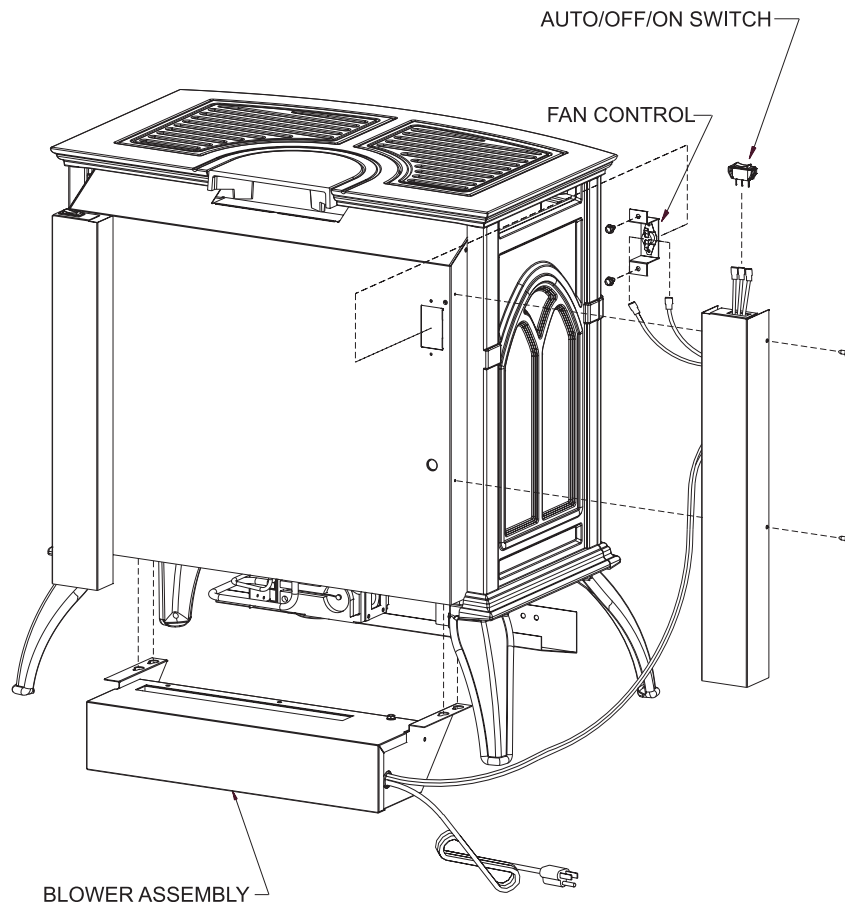

Figure 26 -VFD20CC shown
4. Remove wire channel-left from appliance by removing two 10 x 1/2" screws on left side of the appliance. **NOTICE:** Some units require a new wire channel. If Rheostat mounting holes are missing from part removed from unit, discard wire channel removed from unit and continue installation with appropriate wire channel shipped with blower. See Figure 26.
13. Bend the fan control tab, located on the left side of the back of the unit, inward toward the unit. See Figure 26. Be sure tab is bent at least 90 degrees to allow fan control bracket to slide into slot.